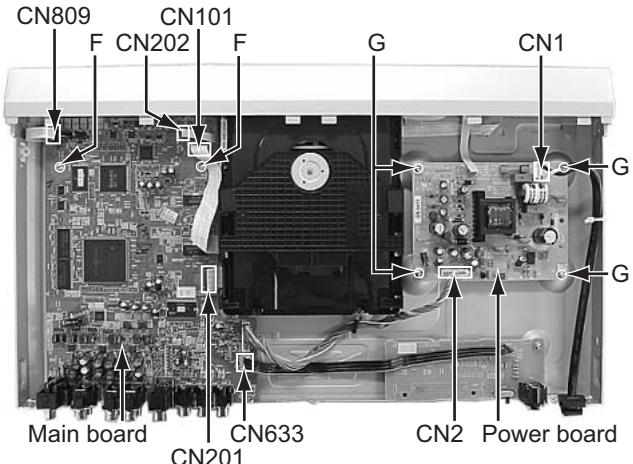

Fig.9
3.1.5 Removing the main board and power board. (See Figure 9)